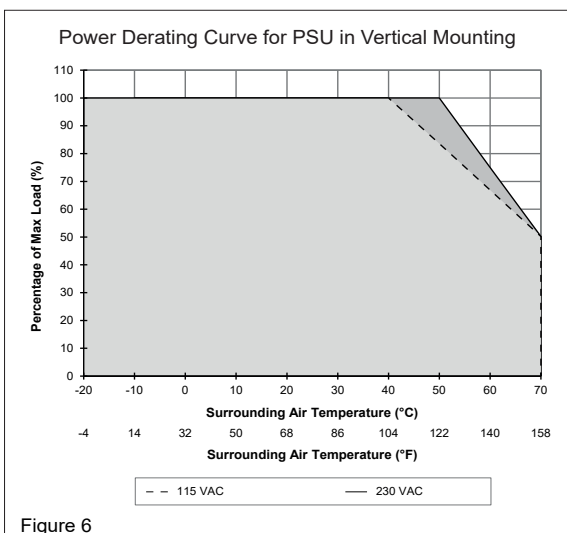

Figure 6
5.4. Thermal behavior (Fig. 6)
Derating	Refer to Fig. 6 > 40°C (1.67%/°C) @ 115VAC (90-229 VAC) > 50°C (2.5%/°C) @ 230VAC (230-264 VAC)